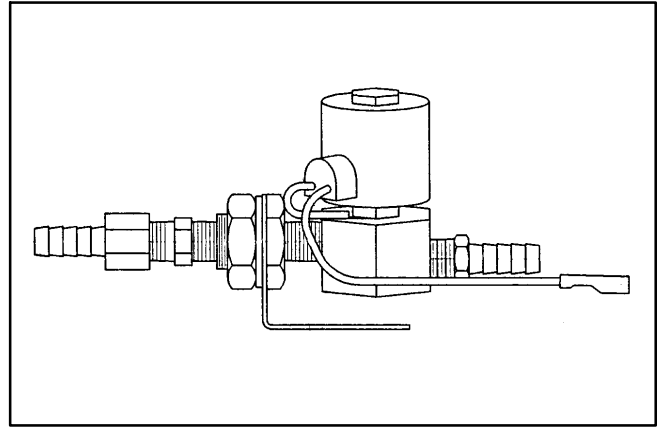

FIGURE 8-20. FUEL SOLENOID VALVE
**Leak Test:** See Figure 8-20. If there is a smell of gas when the generator set is not running, or any other reason to suspect that the valve is leaking, connect the inlet of the valve to a source of air pressure regulated to not more than 14 inches WC (356 mm WC) and disconnect the outlet hose. Replace the solenoid if it leaks, as checked by a soap bubble.